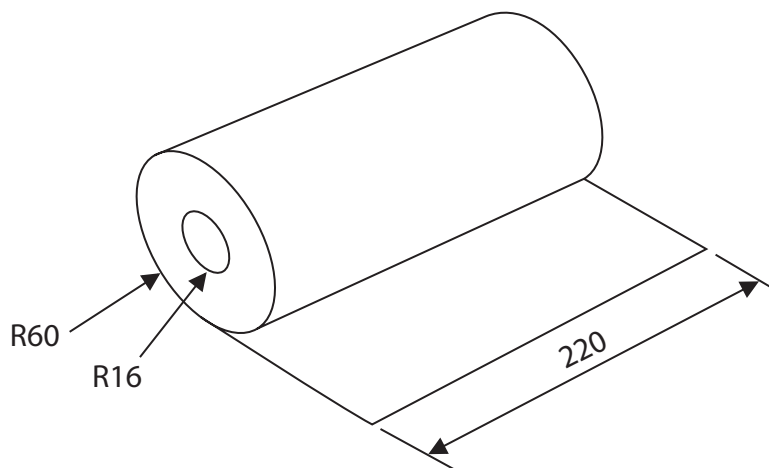

Figure 7
- 5 Figure 7 shows a design solution for a kitchen roll holder together with some additional information.